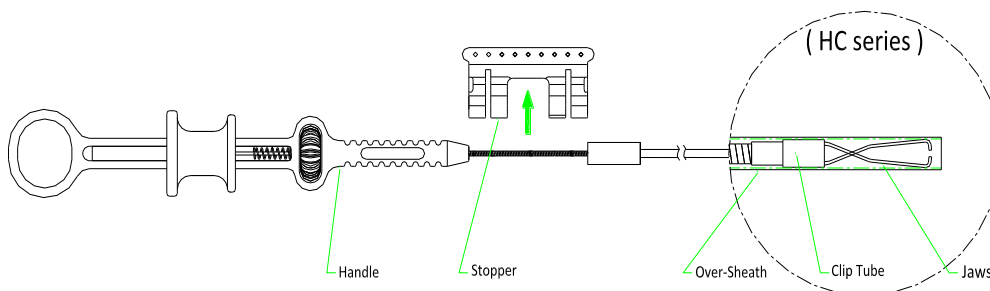
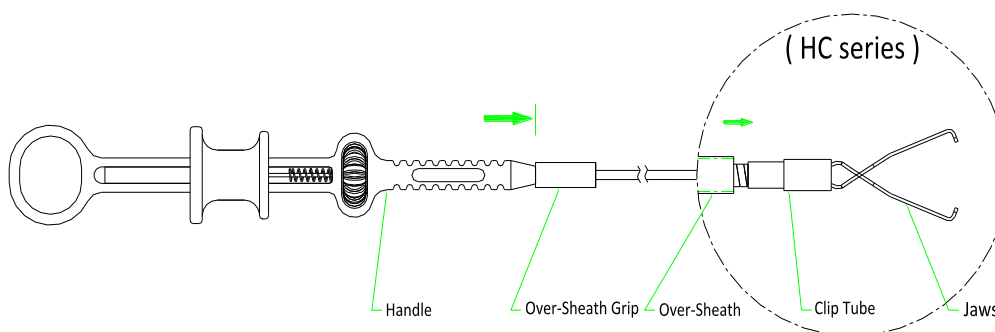

Figure 1.2: Remove the Stopper
Figure 1.3: Expose the Clip
1.3. Once Single Use Hemoclip can be observed exiting the tip of the endoscope under direct visualization, remove the stopper located between the over-sheath grip and the handle, as shown in Figure 1.2. Push the handle distally until handle rests against the over-sheath grip, as shown in Figure 1.3.